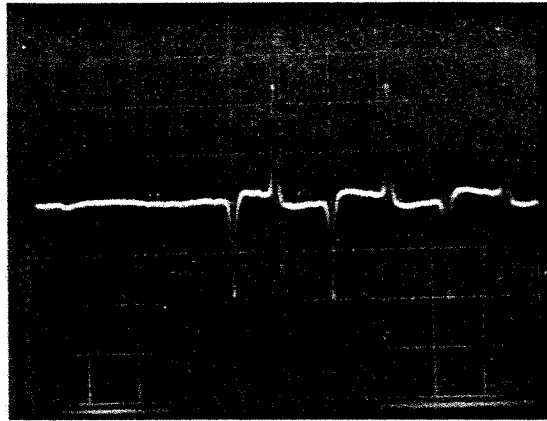

FIGURE 10. INDEX TIMING
- f. Observe the timing between the start of the sweep and the first data pulse. This should be $200 \pm 100 \mu\text{sec}$. If the timing is not within tolerance, continue on with the adjustment. Reference figure 10.